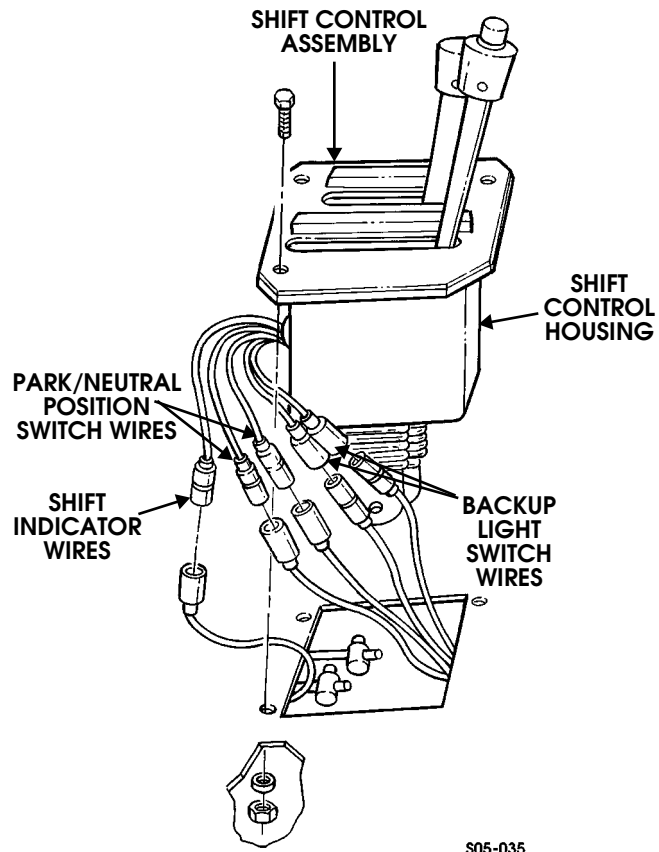

Figure 5-50: Harness Wire Identification
4. Remove shift control housing bolts and remove assembly from body (Figure 5-50).
5. Move shift boot away from shift control housing for access to wires (Figure 5-50).